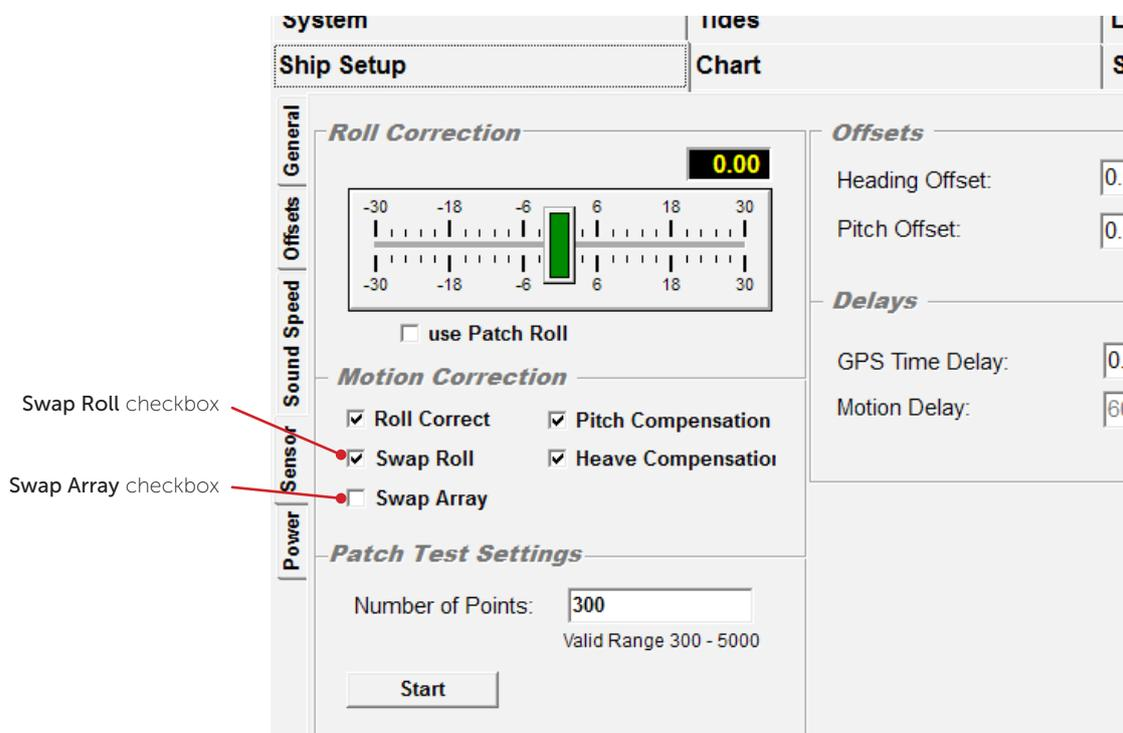

Figure 36. Swap Roll / Swap Array settings
- 3 If the display seems incorrect, change the polarity of the **Swap Array** check box in the **Sensor** sub-tab of the **Ship Setup**. See Figure 36.